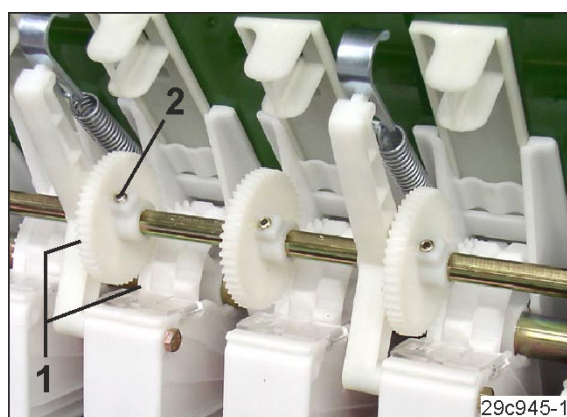

Fig. 222
6. Mesh the teeth (Fig. 222/1) of the drive pinion and the tramline fine seed metering wheels.
7. Tighten the hexagon socket screws (Fig. 222/1) of the drive pinion in the notch of the lay shaft without tension.